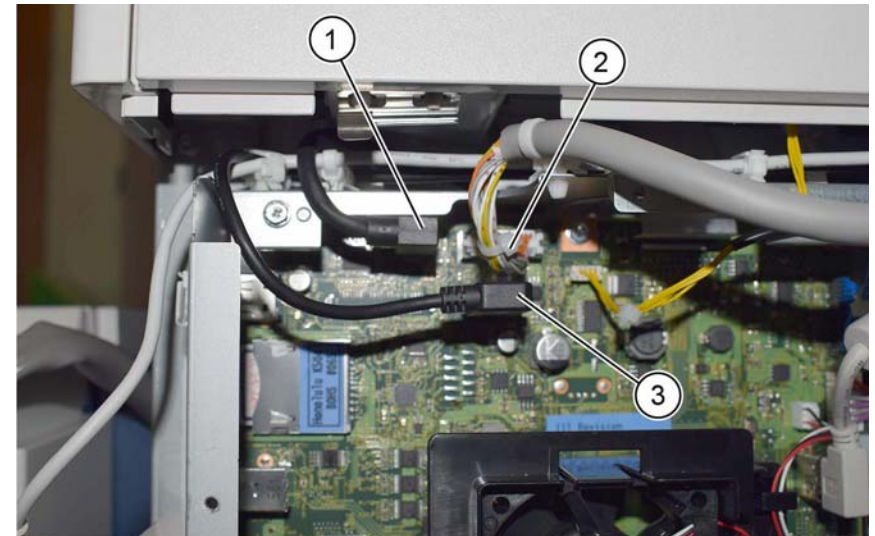

Figure 6 Cables
7. Disconnect the USB, DADF I/F and UI cables, Figure 6:
- a. Disconnect the USB cable (1).
- b. Disconnect the DADF I/F cable (2). **(C7030F only)**.
- c. Disconnect the UI cable (3).